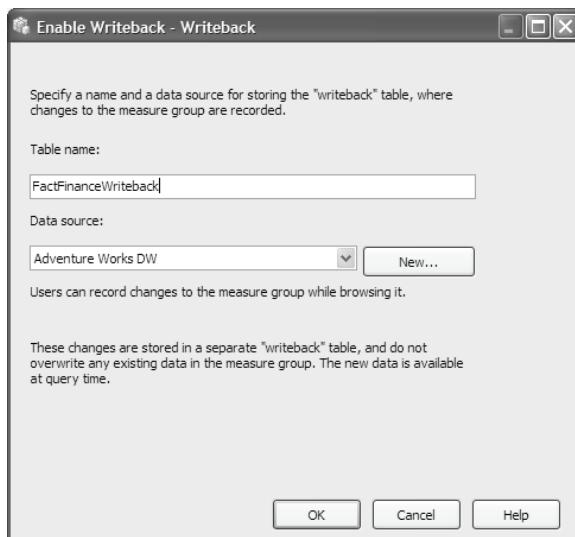

Figure 12.21 Before users can change the cube cells, you need to enable cube writeback.
3. In the Enable Writeback dialog that follows (Figure 12.21), enter **FactFinanceWriteback** as the name of the writeback relational table and choose the data source where it will be created. The